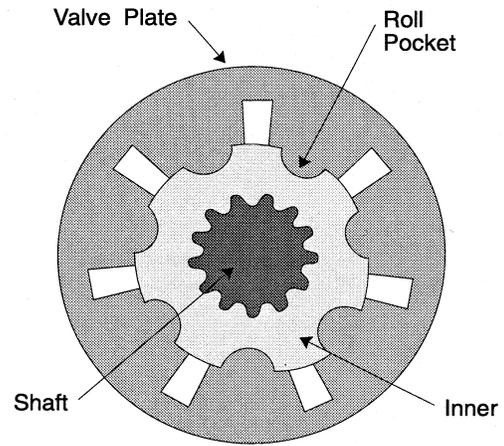

Fig. 1
2. Install a new lip seal (3) by pressing it into the bore from the outside of the body with the lip pointed towards the inside of the body. Insure the seal is seated on the shoulder of the body.
4. Install the dust seal (1) from the front of the body/bearing assembly. Seat the back side (flat side) of the dust seal against the snap ring.
6. Mount the body (15) in a vise bolt side up. Place a square ring seal in the body groove. Assemble the commutator plate (2) on the body with the 16 equally spaced slots facing upwards.
7. Check the output shaft end for burrs and scratches, de-burr if necessary. The shaft must be smooth so it will not cut the lip seal when installed through the seal. Lubricate the shaft and lip seal and install the shaft from the outside of the body through the seal. While holding the shaft from under the motor, install the valve plate and inner (6.4) as shown in Fig 1. Using snap ring pliers, install snap ring (7). Be sure the snap ring is tight on the shaft. For thru shaft see figure 3.
9. Lightly oil the square ring seal (8) and place it in the commutator plate (22) o-ring groove.
10. Place the check balls (5) over the two 1/8 inch diameter holes on the commutator plate (22). Be sure the check balls do not fall into the (bolt) holes.
11. Place the locating ring (6.1) onto the body/bearing assembly with the check ball holes facing downward over the balls. Align the eight bolt holes in the locating ring with the eight holes in the body (15). (The bolt holes will align in only one position). **Note:** Be sure not to dislodge the body/bearing assembly (15) square ring seal (8) while positioning the locating ring (6.1).
13. Place the other lightly oiled square ring seal (8) into the groove in the cover and place the cover over the shaft end and align the bolt holes. If the motor is equipped with the optional thru-shaft, oil the seal in the cover and the shaft and install the cover gently while rotating it.